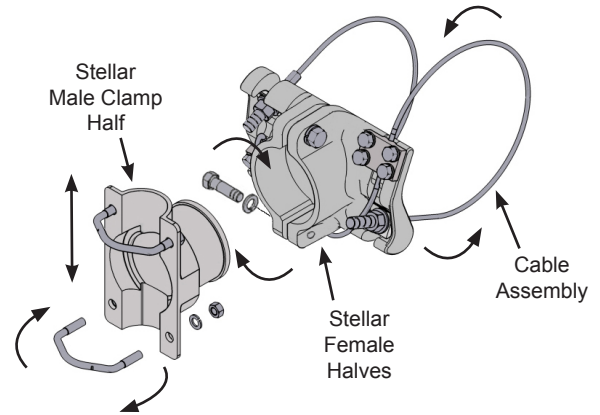

Figure 1
- 2. Adjustability:** The clamp kit shall be capable of being rotated in any direction shown in Figure 1. Rotational adjustability shall be provided with a cast shoulder on the male clamp half that is securely constrained by the female clamp halves, until fully tightened. Additional adjustability for length and angularity of the assembly's attaching pipe or tube shall be provided by the v-bolts in the male clamp half.
- 3. Attachment:** A one-piece aircraft type stranded cable shall rigidly attach the clamp kit to any supporting structure between 4" and 22" in diameter without any special tools or equipment. The two v-bolts in the male clamp half shall securely attach any 1-7/8" diameter pipe that further supports the assembly. (Figure 1)